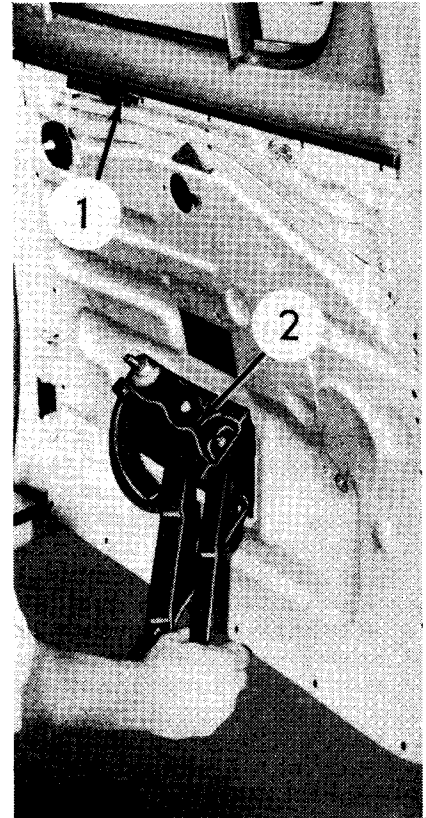

FIG. 12
7. Lift the glass all the way up manually. Hold it in this position by inserting a small screw driver (1, Fig. 12) or punch through one of the upper trim panel clip holes.
9. Thread the regulator (2, Fig. 12) out through the large inspection hole.